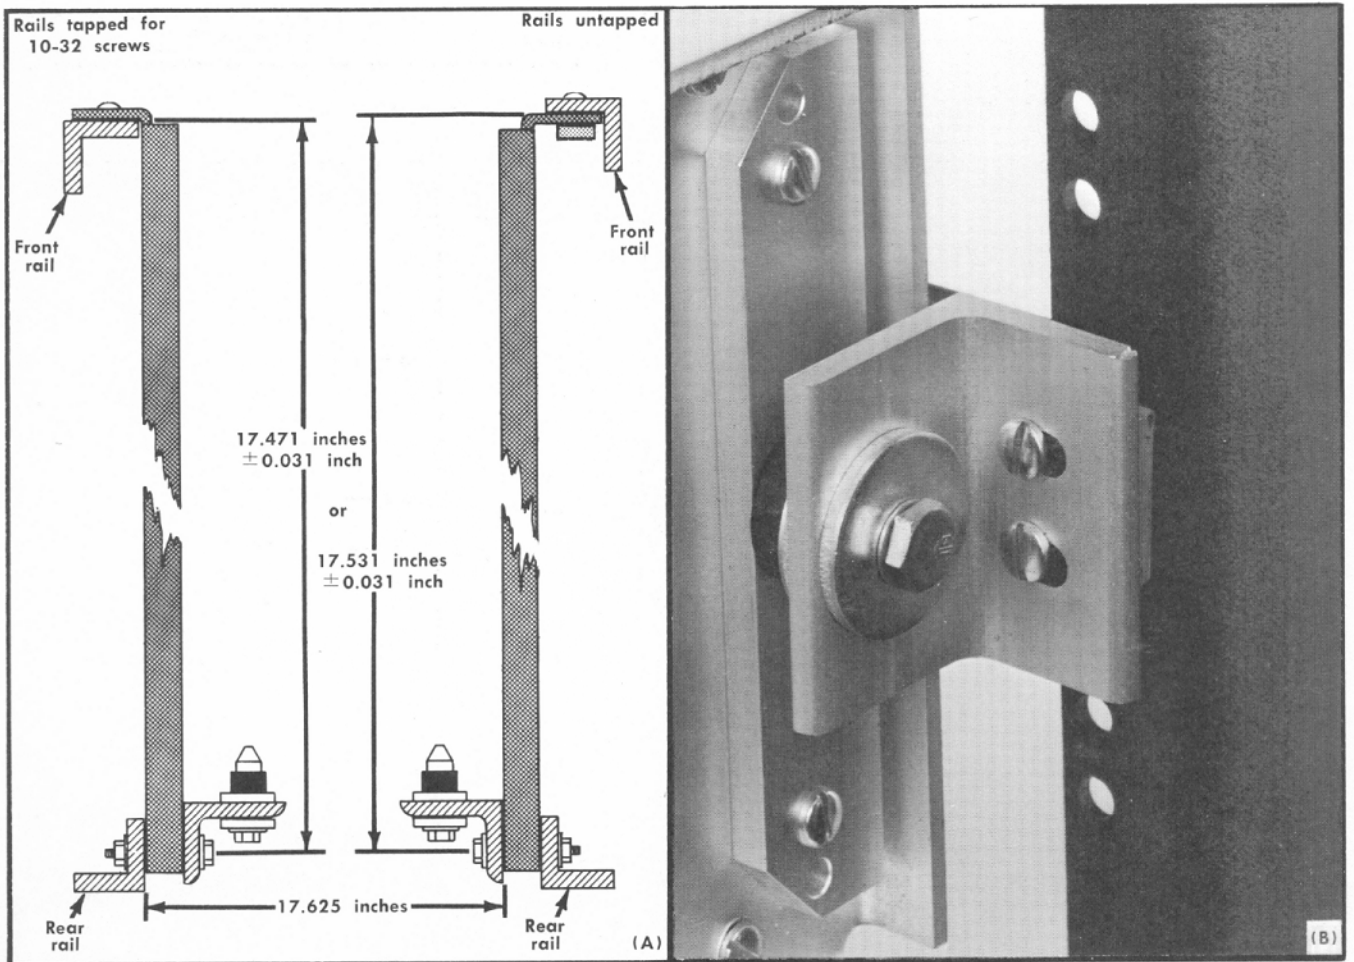

Fig. 10-4. Supporting the rear of the stationary sections: (A) dimensions necessary, (B) completed installation.
The following mounting procedure uses the rear support kit (see Fig. 10-4 and 10-7) to meet the environmental characteristics of the instrument (shock and vibration). Two alternative mounting methods are described at the end of this procedure. However, when mounted according to these alternative methods, the instrument may not meet the given environmental characteristics for shock and vibration.
The rear of the stationary sections must be firmly supported to provide a shock-mounted installation. This rear support must be located 17.471 inches, ± 0.031 inch, from the outside surface of the front rail when the mounting flange is mounted outside of the rail, or 17.531 inches, ± 0.031 inch, from the rear surface of the front rail when the mounting flange is mounted inside of the front rail. If the cabinet rack does not have a strong supporting member located the correct distance from the front rail, an additional support must be added. The instrument will not meet the environmental specifications unless firmly supported at this point. Fig. 10-4 illustrates a typical rear installation using the rear support kit and gives the necessary dimensions.
1. Select the proper front-rail mounting holes for the stationary sections using the measurements shown in Fig. 10-4.